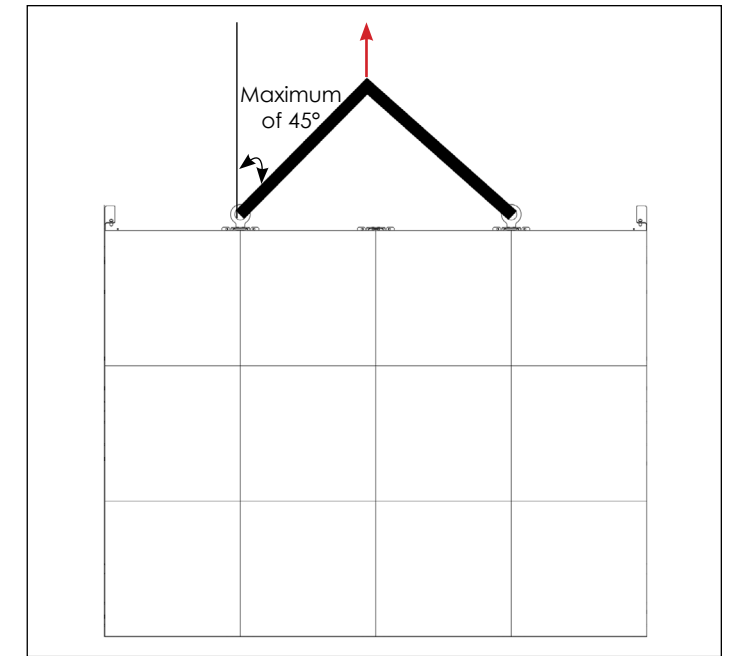

Figure 3: Lift with Chains
- Use chains, cables, or straps with sufficient weight capacity, accounting for increased loads from the rigging angle. Refer to **Figure 3** and **Section Sizes & Weight Estimates (p.1)**.
- Lift at a maximum angle of 45° from vertical. Refer to **Figure 3**.